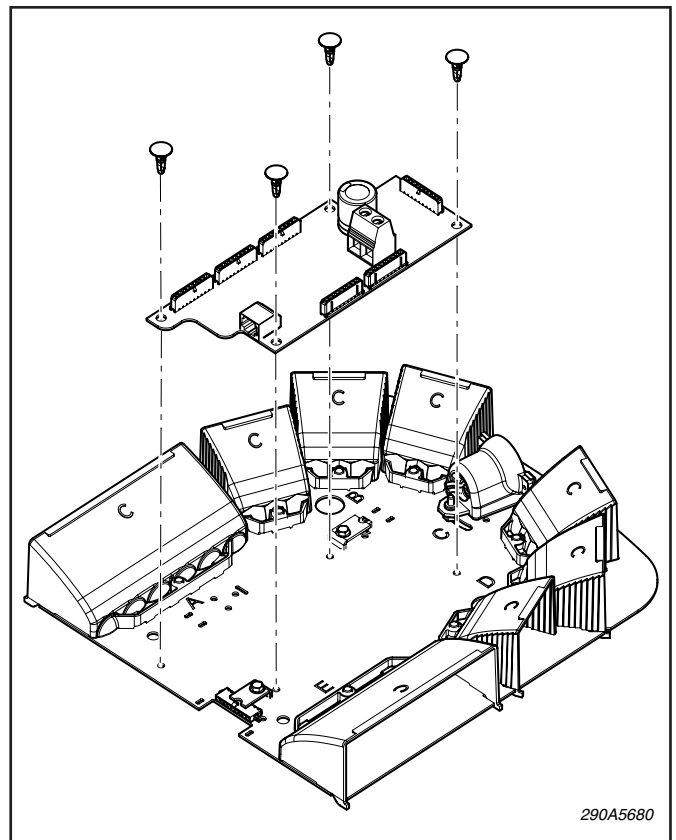

Figure 3.
C. *PCB Controller Replacement (see figure 3).*